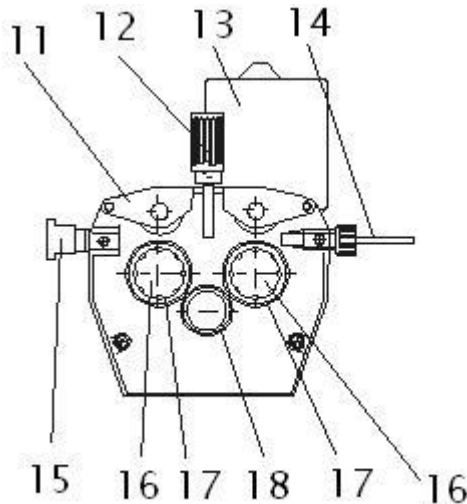

Figure 17.
Cut off the curved or damaged end of welding wire and feed it through the inlet guide (Fig. 17, pos. 14). The diameter of the wire should correspond to the diameter of the feedrolls. The wire size is on the face of the feedrolls.
MIG torch angle to the weld has an effect on the width of the weld run. Refer to figure 17.